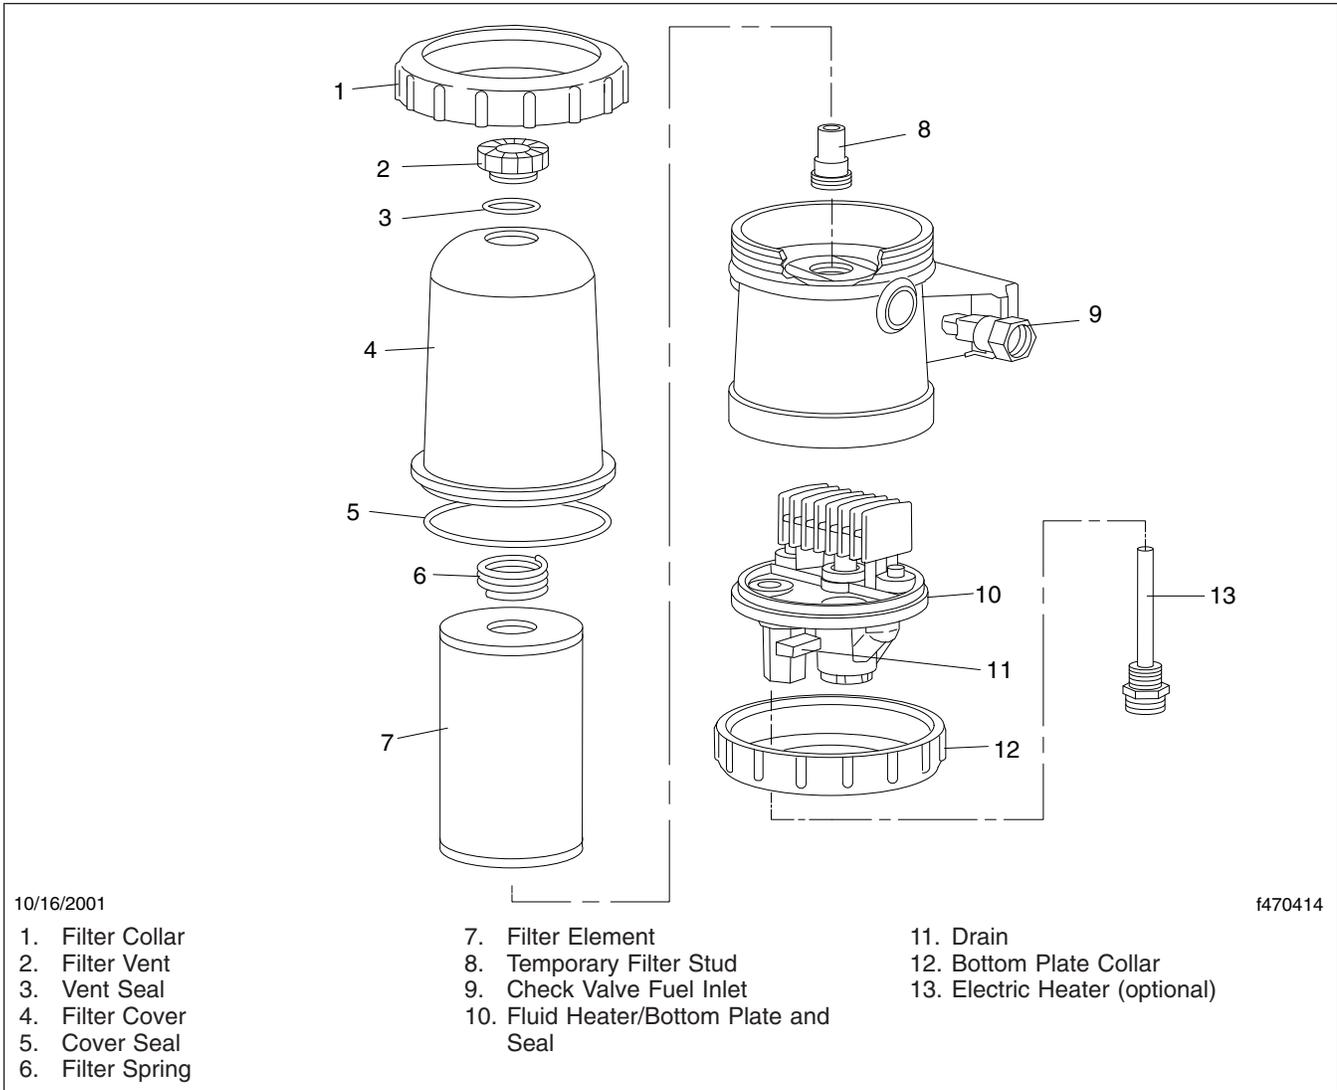

Fig. 3, Davco Fuel Pro® 382
1. Drain the fuel below the collar level. See Fig. 3.